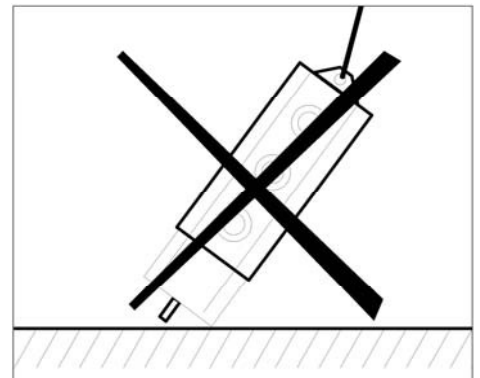

fig. 9
- not to use the operating mechanism cover as a supporting point (fig. 9)